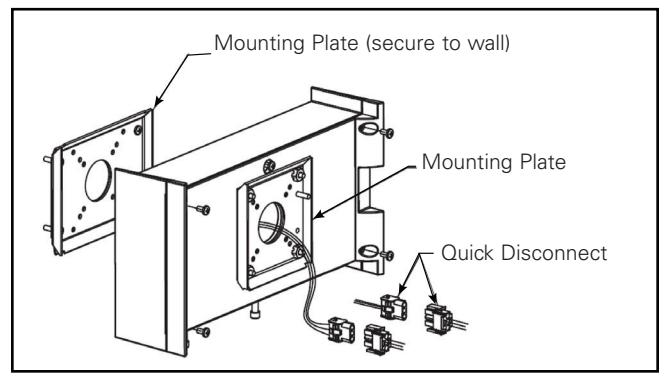

Figure 3.
9. Pull supply wires through center hole and re-install thruway box cover back on thruway box housing. (Figure 3.)